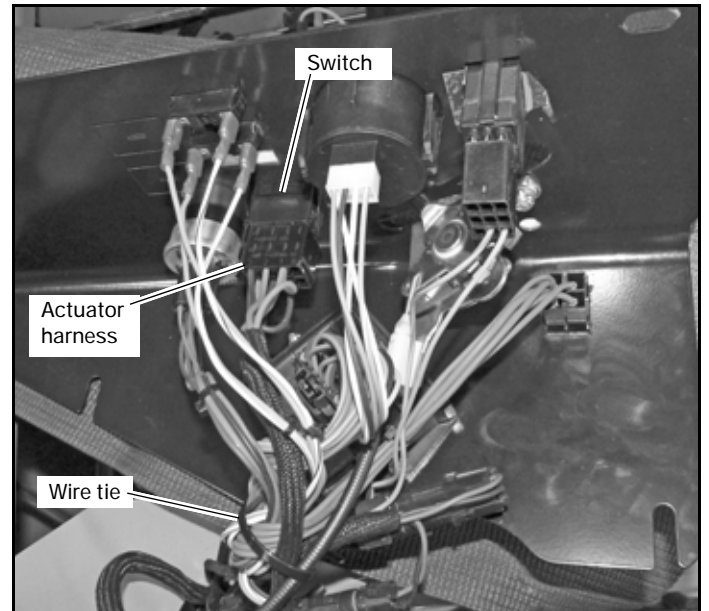

FIG. 8
15. Plug the actuator harness into the switch. Fig. 8
16. Secure the actuator harness to the mower harness using a wire tie. Fig. 8